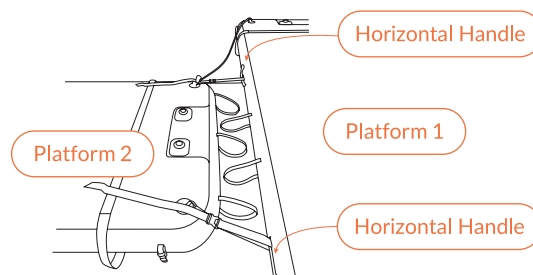

Fig 91 - Secure connection straps
4. Then feed the connection straps through the horizontal handles (either side of the Air Toggle connection) of Platform 1. It is important to do this before you inflate the Air Toggle (Fig 91).